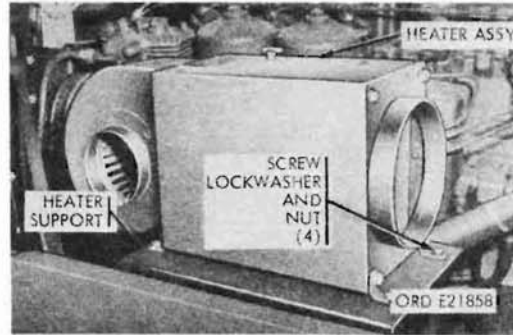

Figure 423. Hot-water heater assembly replacement
- (3) The fording control cable handle is located on the center of the dash panel (fig. 423). It is secured to the panel by two mounting nuts, one on the outside of the panel and one on the inside. Remove inside mounting nut and let it slide along cable.
- (4) Using both hands, one outside and one inside of panel, slip cable through firewall and vehicle dash panel.
- (5) Then, using a suitable tool, remove control cable grommet from firewall.